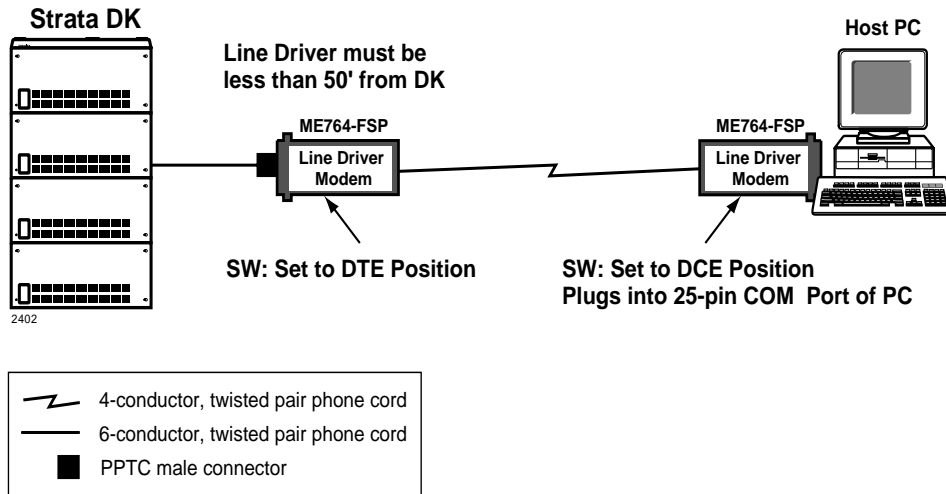

Figure 11-18 Connecting Strata DK to a CCV PC More Than 50 Feet Away
An example of CCV connections is shown in Figure 11-18.
1. Connect the Strata DK280 or DK424 MIS port (RSIU/RSIS, RSSU, PIOU, or PIOUS PCB) to the ME764-MSP Line Driver with an RS-232 cable (see Figure 11-18). Set the switch on the Line Driver to DTE.